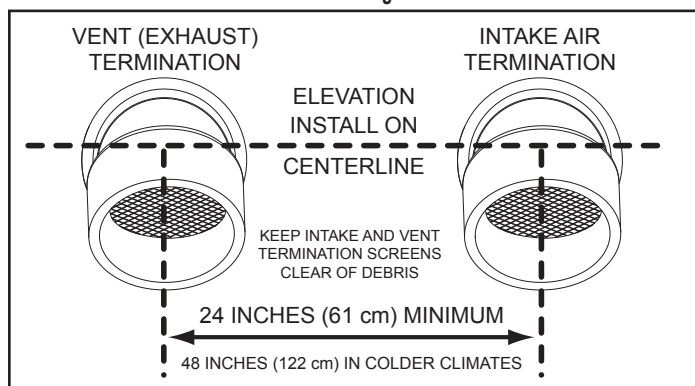

Figure 25. Side-Wall Termination - Direct Vent
4. If installing both an intake air and vent termination in a Direct Vent configuration through a sidewall there must be a minimum of 24 inches (61 cm) separation, measured on vertical center line, between the intake air and vent terminations. See **Figure 25**.
6. If installing both intake air and vent terminations in a Direct Vent configuration through a sidewall the intake air and vent terminations must be installed at the same elevation measured on horizontal center line - see **Figure 25**.
- However, the distance between the closest vent and intake air terminations must be a minimum of 24 inches (61 cm). In colder climates this separation should be increased to at least 48 inches (122 cm). See **Figure 25** (page 27).